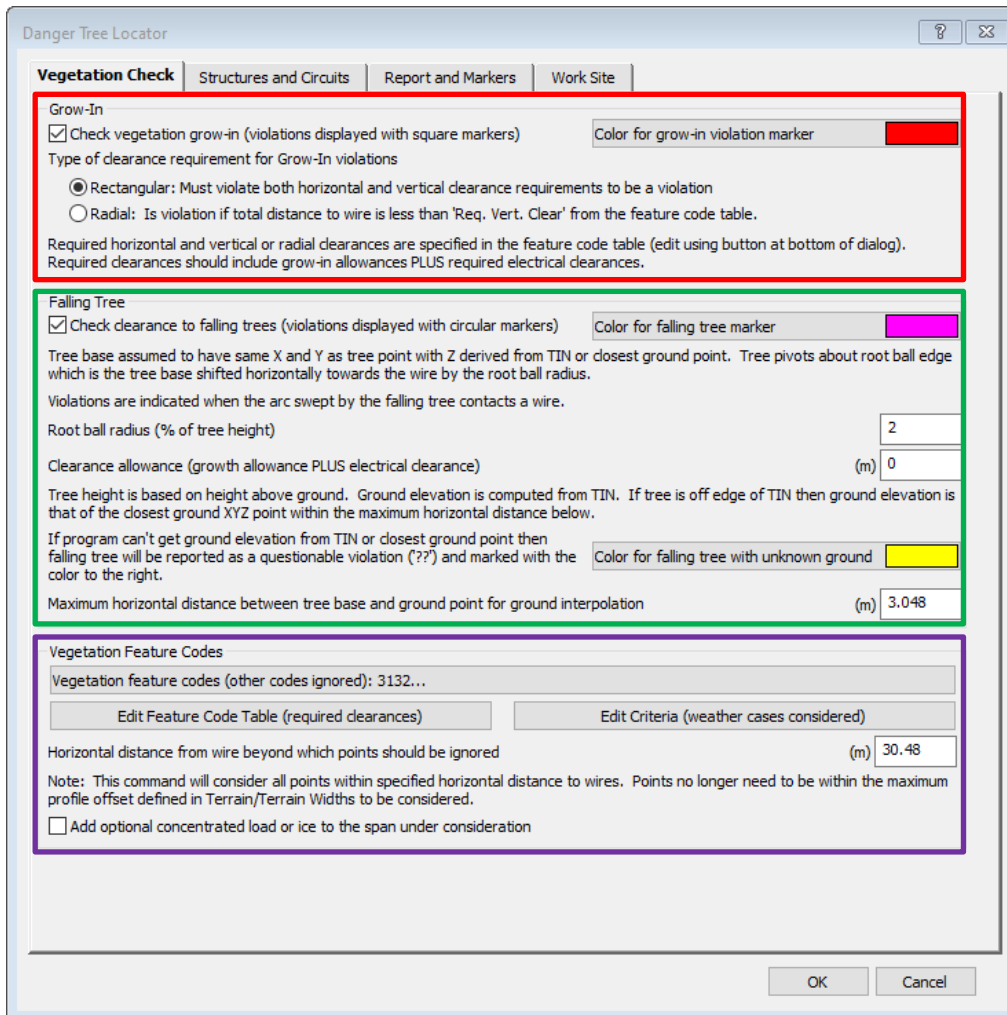

Figure 5: Danger Tree Locator - Vegetation Check tab
DTL can even consider unbalanced ice scenarios where a span is subjected to more ice than neighboring spans (*"Add optional concentrated load or ice to the span under consideration"* option Figure 5). This results in additional sag as suspension insulators swing into the more heavily iced span.
- *Draw a green \"+\" marker at survey points with wire offsets that could produce violations.* This marker is placed at all points, within the Horizontal offset from wire positions considered (bottom of the **Vegetation Check** tab - Figure 5), provides a view of all the points considered during the analysis.
Make sure that you have selected to include both a Grow-In and a Falling Tree check in the **Vegetation Check** tab of the **Danger Tree Locator** dialog box (Figure 5) before running the analysis.